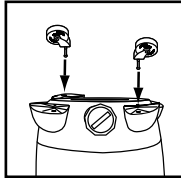

FIGURE 7
7. Insert casters into feet by placing stem of caster into holes provided. Apply pressure and twisting motion until casters snap into place. **FIGURE 7**.